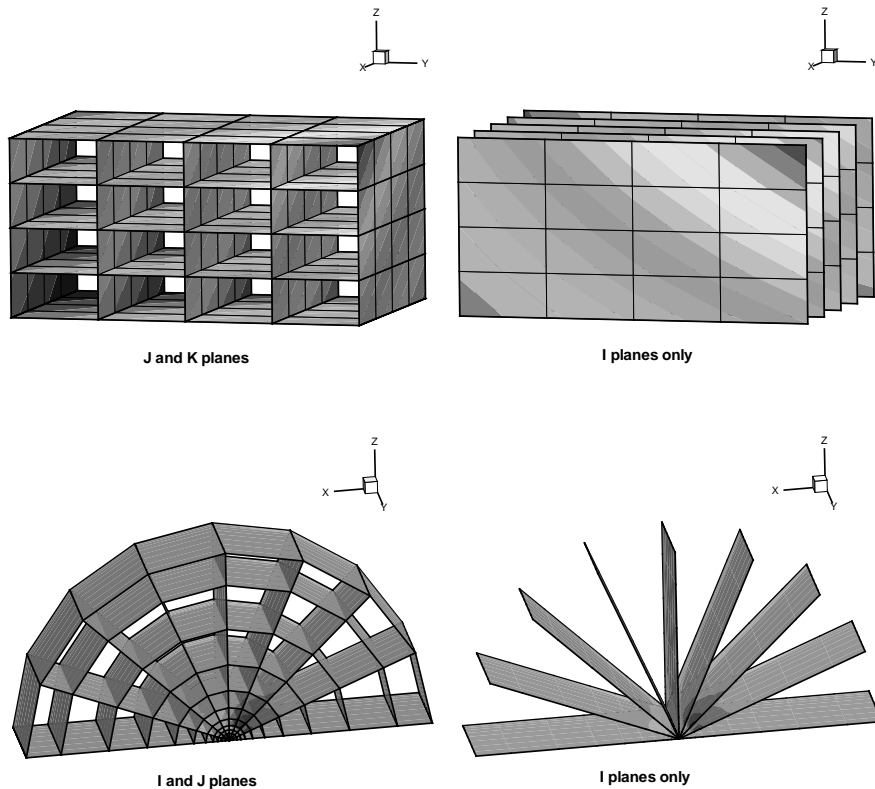

Figure 21-4. Examples of plotting I-, J-, and K-planes.
- **Planes Settings (I-, J-, K-, IJ-, JK-, IK-, and IJK-planes):** These settings will plot the appropriate combination of I-, J-, and or K-planes. The planes are determined by the Range for columns to the right of the dialog. These settings are available only for IJK-ordered data. Figure 21-4 shows a number of examples of plotting I-, J-, and K-planes.